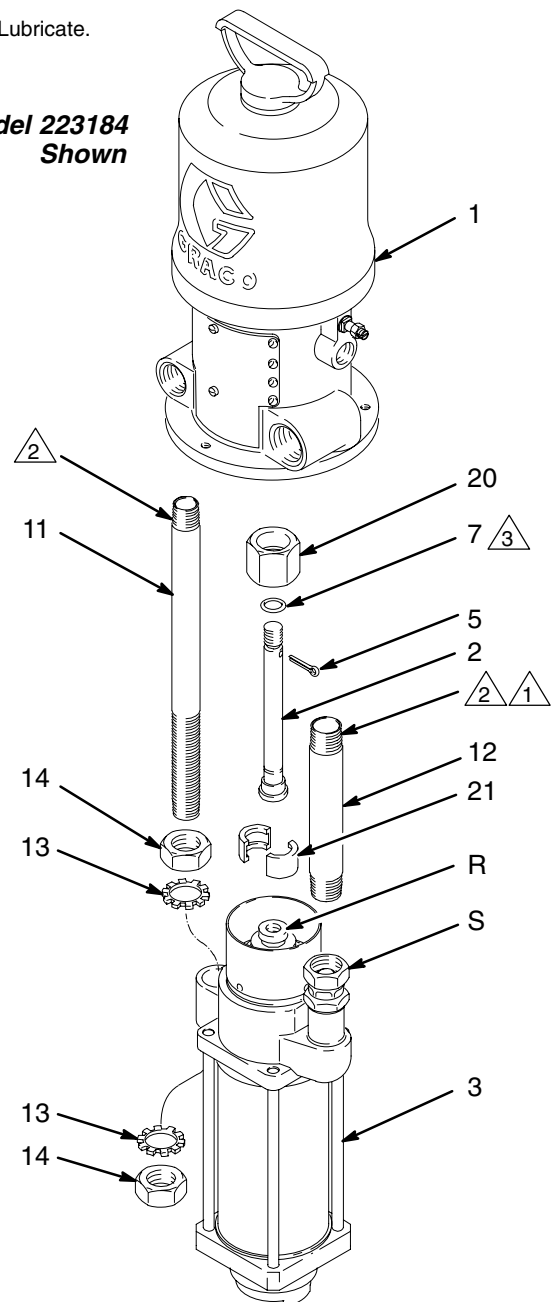

Fig. 4
3. Unscrew the coupling nut (20) from the displacement rod (R). Remove the coupling collars (21). See Fig. 4.
4. Unscrew the lower locknut (14) and lockwasher (13) from the return mounting tube (11).
5. Unscrew the swivel union (S) from the supply mounting tube (12).
1. Position the displacement pump on the mounting tubes (11, 12). Thread the upper locknut (14) onto the return mounting tube (11) a couple of turns. Tighten the swivel union (S) securely onto the supply mounting tube (12). See Fig. 4.
2. Butt the connecting rod (2) and displacement rod (R) together; if necessary, adjust the locknuts (14) on the return mounting tube (11) to align the rods.
3. Position the coupling collars (21) so they engage with the connecting rod (2) and displacement rod (R). Lower the coupling nut (20) over the coupling collars and screw it securely onto the displacement rod.
4. Tighten the locknuts (14) securely.
6. Turn on the air to the motor and run the pump slowly. Adjust the locknuts (14) on the return mounting tube (11) as necessary until the pump operates smoothly at minimum air pressure to the motor. Tighten the locknuts securely.